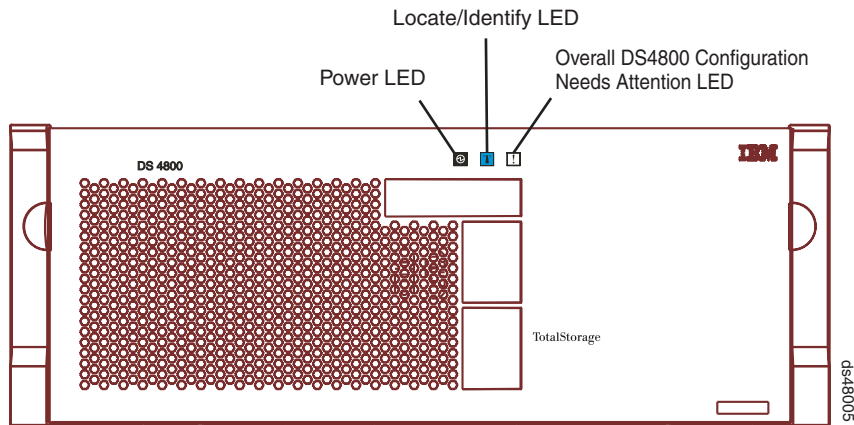

Figure 99. Overall DS4800 Configuration Needs Attention LED on the DS4800 front bezel
2. Locate the storage subsystem that has the failed SFP module by checking the Overall DS4800 Configuration Needs Attention LED on the front bezel of the storage subsystem. (Figure 99 on page 164 shows the location of the Overall DS4800 Configuration Needs Attention LED on the front bezel.)